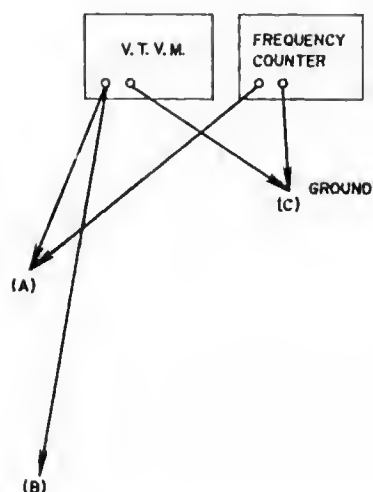

Fig. 16
### 3. RECORDING BIAS FREQUENCY ADJUSTMENT (See Fig. 16)
- 2) Connect a Frequency counter to points (A) and (C) in Fig. 16 of the oscillator P.C. Board (LE-5021) and read the frequency indication.
- 2) Connect a V.T.V.M. to points (B) and (C) in Fig. 16 of the oscillator P.C. Board (LE-5021) and read the V.T.V.M. indication.